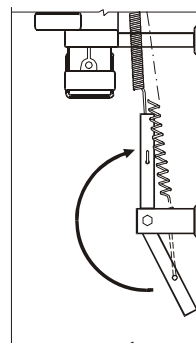

Figure 2. Spring tightener in upper position with slack detector cable.
- Lift the spring tightener to the upper position so that the detector cable becomes slack. See Figure 2.